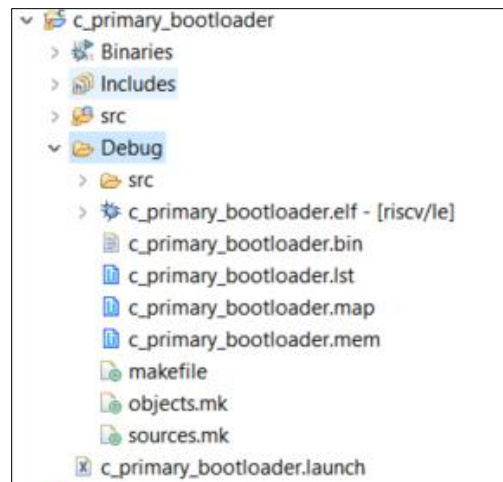

Figure 7.31. Bootloader Binary Created
- This creates a debug folder as shown in Figure 7.31. The binary created is named `c_primary_bootloader.mem`. This is as a part of the System Memory in Propel Builder SoC design. This can be done through ECO editor or directly from the Propel Builder System Memory user interface.